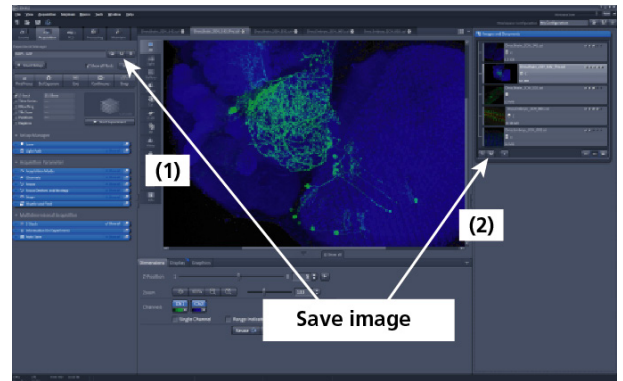

Fig. 58 Save image buttons in ZEN
- To save your acquired or processed images, click on the **Save** or **Save As** button in **File** menu, or click the  button in the **Main Toolbar** (Fig. 58/1), or click on the  button at the bottom of the **Images and Documents** area (Fig. 58/2).